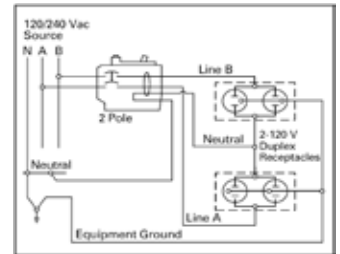
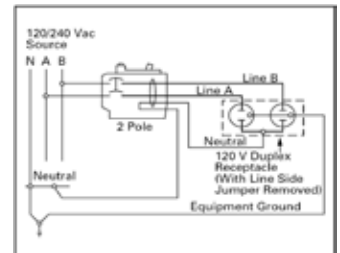

Figure 2. 2-Pole Shared Neutral with Multi-Duplex Receptacle Application
Figure 4. 2-Pole Shared Neutral with Duplex Receptacle Application
② Independent trip refers to 2-pole multi-wire, home run or shared neutral circuits (see Figure 2 and Figure 4).
③ Will not fit into CPM112, CPL112, CPL116, CPL120, CPL220, CPL240, 3CPM112, 3CPL218, 3CPL224 or 3CPL230 prior to November 2004.